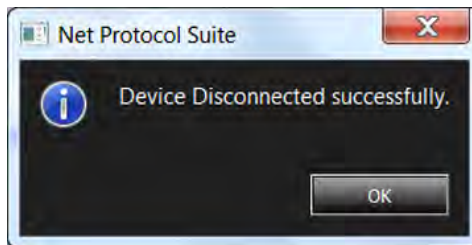

Figure 2.61: Device Disconnected Successfully Confirmation
- ❑ A confirmation pop-up box also appears if you successfully disconnected (Figure 2.61).